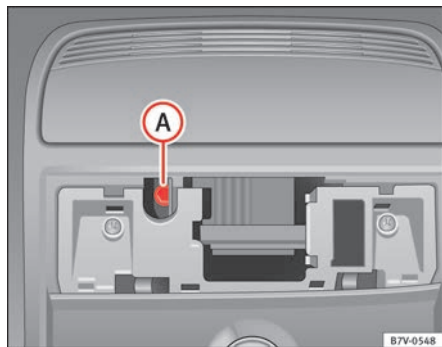

Fig. 194 Allen bolt to close the panoramic sliding roof.
- Insert a standard 4 mm Allen key¹⁾ into the Allen bolt ⇒ fig. 194 **A**.